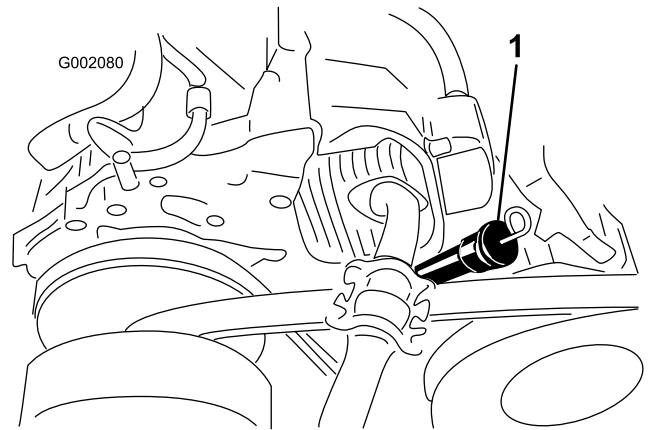

Figure 18
4. Remove the oil dipstick and wipe the end clean (Figure 18).
5. Slide the oil dipstick into the fill spout fully seating it (Figure 18).
8. Install the oil dipstick and firmly seat it (Figure 18).
3. Use a rag to clean around the fill spout (Figure 18) so that dirt cannot fall into the spout and damage the engine.